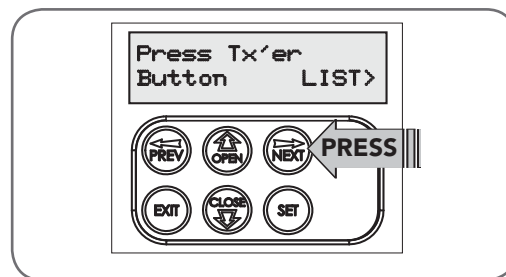

Fig G.1
- Press NEXT to navigate to Menu 1 (**Fig. G.1**).